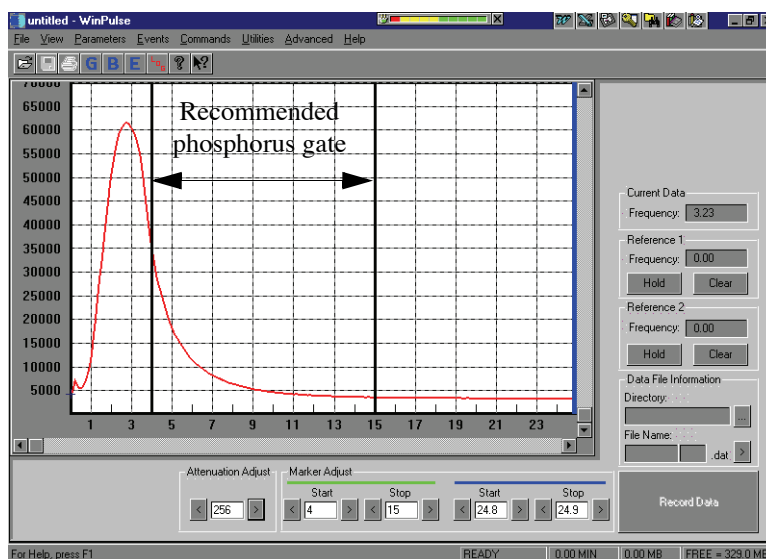

Figure 5.4. Phosphorus emission and gate settings for maximizing phosphorus (The PMT voltage was set to 400 V.)
5. In the Gate Parameters screen, set the integration gate's start and stop times (recommend 4–5 ms and 15 ms, respectively) to optimize phosphorus detectivity. If gas flows are properly optimized, the tail of the phosphorus emission extends out to 12–15 ms (Figure 5.4).
3. Delay the gate A start time relative to that shown in Figure 5.4 to increase selectivity between the phosphorus and hydrocarbon emissions (i.e., increase the gate A **Start Time** in the Gate Parameters screen to 4–6 ms or more), minimizing hydrocarbon and phosphorus response overlap.